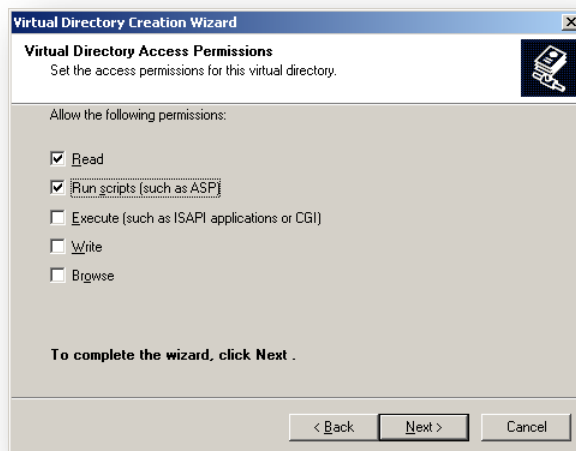

Figure 95 – Virtual Directory Access Permissions
- Click the right arrow next to “Default Web Site” in the left pane of the IIS Manager window. You should now see the AreaMonitor application under the default web site. See Figure 95.